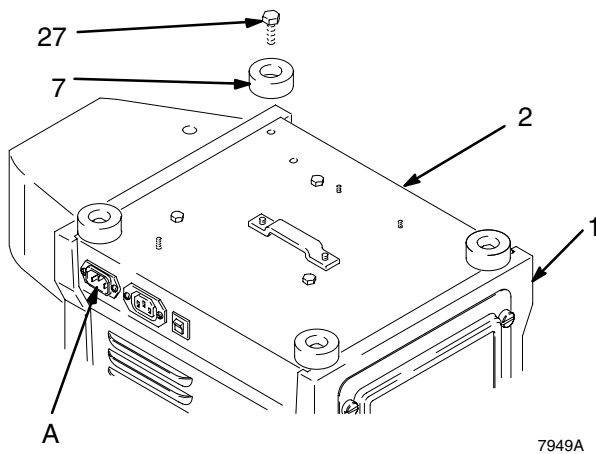

Fig. 10
2. Place turbine upside down on work surface. Remove four cap screws (27) and bumpers (7). See Fig. 10 below and **Parts Drawing** on page 16.
3. Carefully lift unit by turbine baseplate (2) from turbine cover (1), and place upright on work surface.
Replace power cord by unplugging from IEC connector (A). Install new cord. See Fig. 10